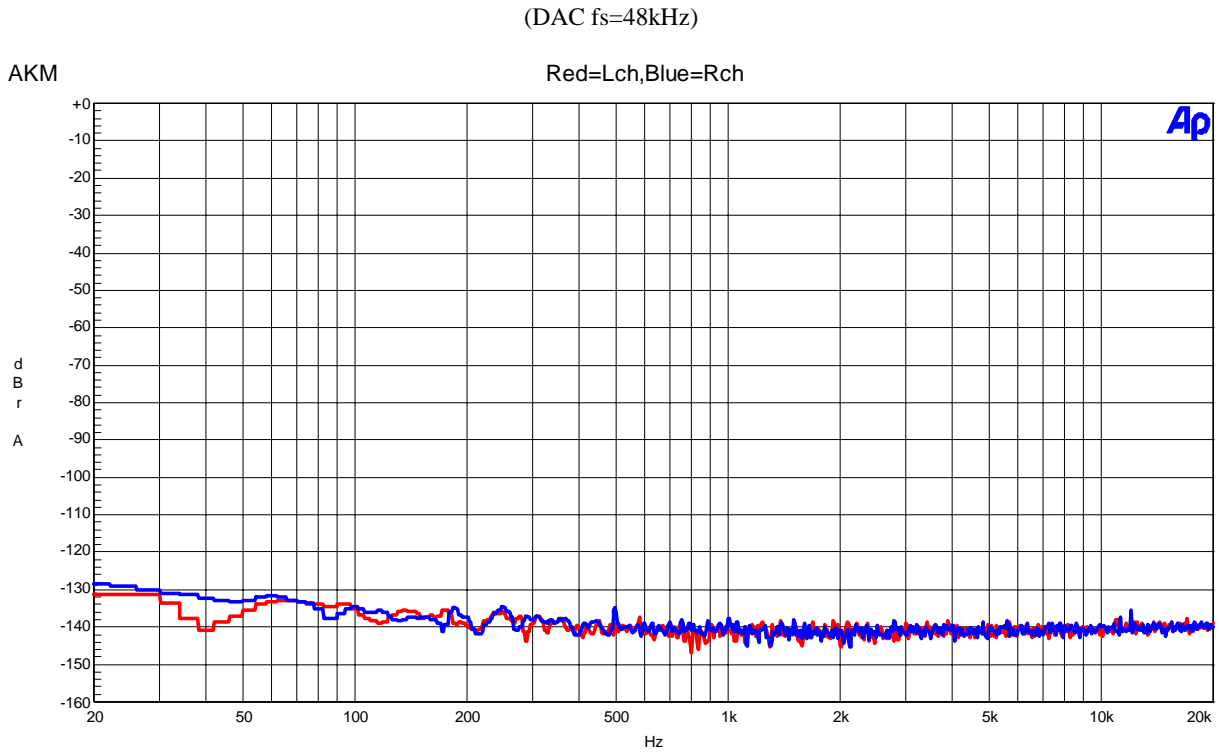

Figure 26. FFT(noise floor)
- Figure 26. FFT (out-of-band noise)